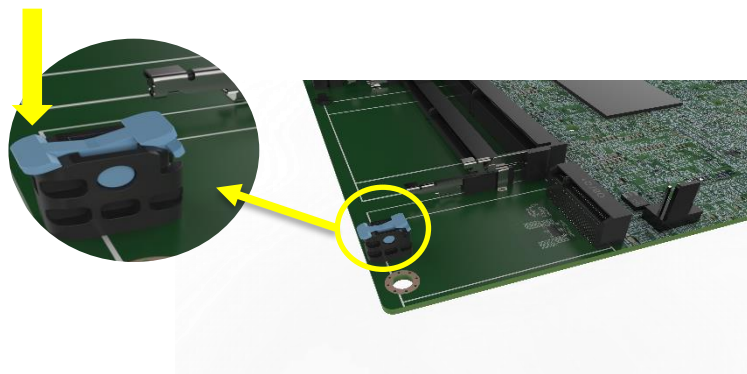

Figure 4-11: Press the Retainer
Step 1: Press the retainer down as shown below. (See **Figure 4-11**)
Step 5: If you want to remove the M.2 module, you should press the retainer down as described in Step 1 to release the M.2 module. (See **Figure 4-11**)